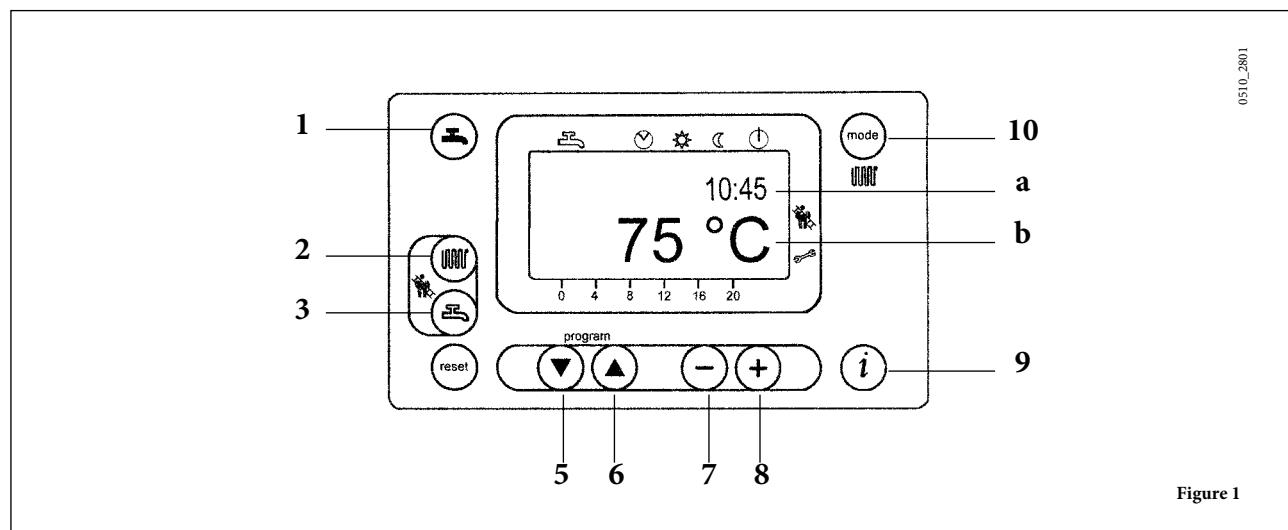
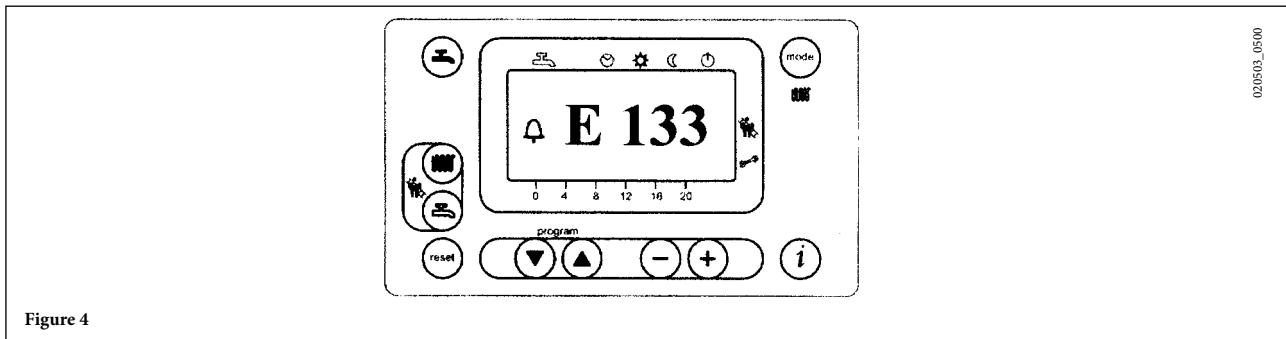
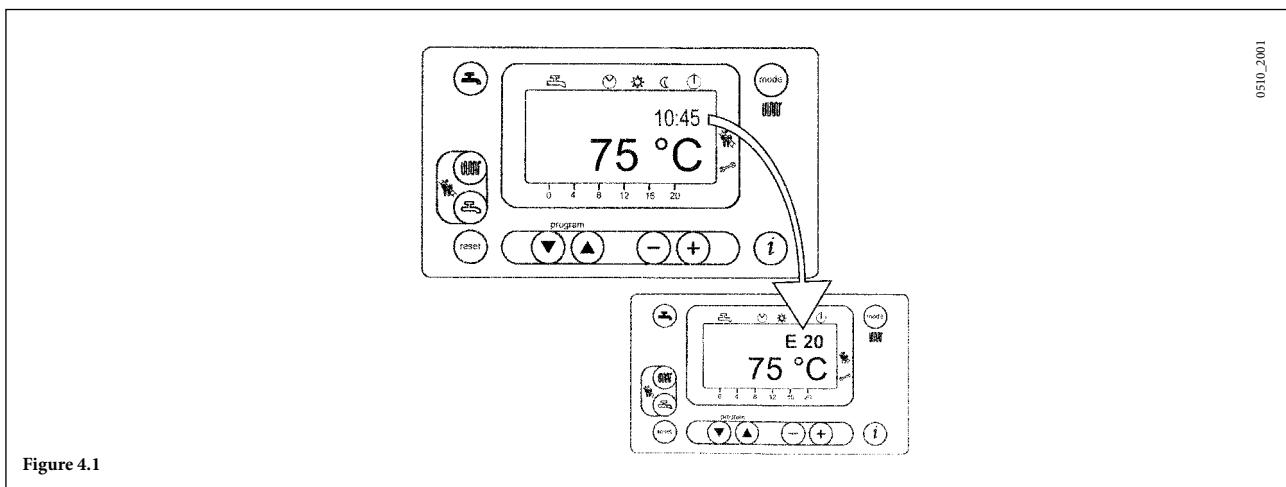

Figure 1
Figure 4
Figure 4.1
- Press W (2- figure 1) to set the heating water temperature;
- press one of the two buttons S (mode) (1 or 10 - figure 1) to save and return to the main menu.
NOTE – With the external probe connected, press W (2 – figure 1) to shift the heating curve. Press $\text{-} \text{+}$ to decrease or increase the ambient temperature of the room to heat.
- Press S (3- figure 1) to set the maximum DHW water temperature;
The fault signals appear on the main display (figure 1 a) together with the symbol  (figure 4).
The fault signals and the time flash alternately (figure 4.1) on the secondary display (figure 1 b). It is not possible to reset the fault signals appearing on the secondary display as the reason for the signal must first be eliminated.